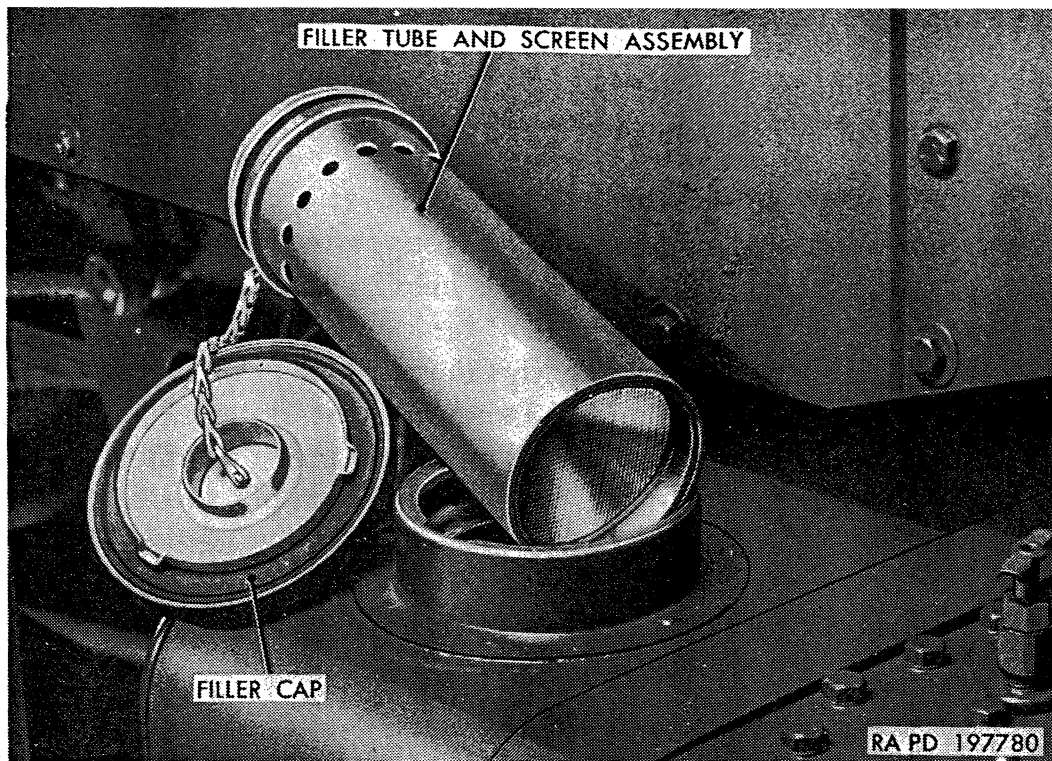

Figure 128. Fuel tank cap, filler tube, and screen.
*b. Filling Fuel Tank* (fig. 128). Fuel tank filler cap assembly incorporates a relief valve which opens at pressure of  $2\frac{1}{2}$  psi. Filler cap is attached to filler tube by chain to prevent loss of cap. Wire mesh screen, located at lower end of metal filler tube, prevents large dirt particles from entering fuel tank.
- (1) Wipe filler cap and surrounding area with clean cloth before removing filler cap.